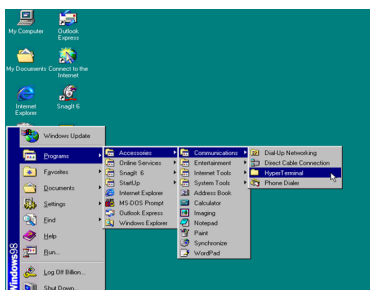

Figure 3.2-1
Step 1. Open the "Taskbar Start"/"Programs"/"Accessories"/"Communications"/"Hyper Terminal". (Hyper Terminal requires version 3.0 or higher) (Figure 3.2-1)